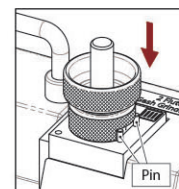

Fig. 6-3
3. 2 Flute End Gash Grinding (IIII) (Fig. 6-3)